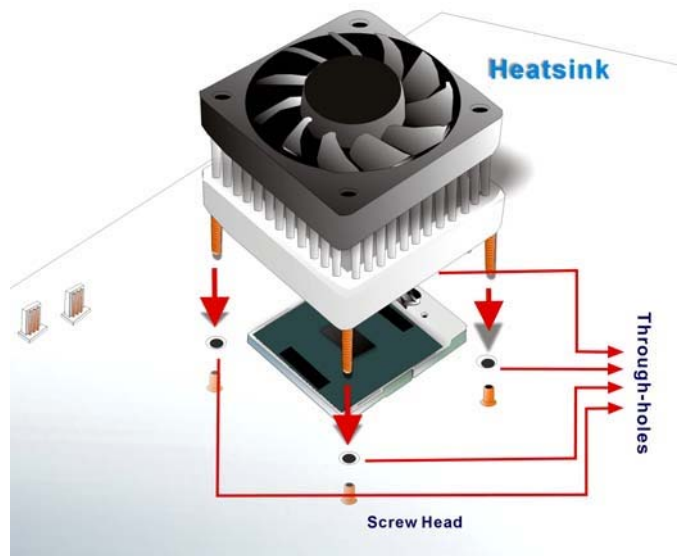

Figure 3-8: Securing the Cooling Kit
- Step 3: Secure the cooling kit.** From the solder side of the PCB, align the provided nut caps to the heatsink screw threads that protrude through the PCB holes. Without over tightening the nut caps, insert them onto the protruding screw threads to secure the cooling kit to the PCB board. (See **Figure 3-8**)